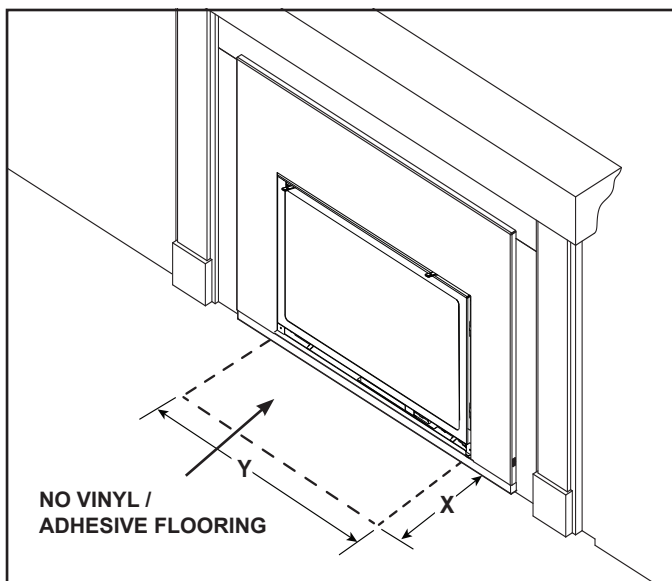

Figure 3.19 Hearth - Combustible Material Exception
- Combustible flooring may be located in front of the appliance. Exception - no vinyl / adhesive flooring. See Figure 3.19.